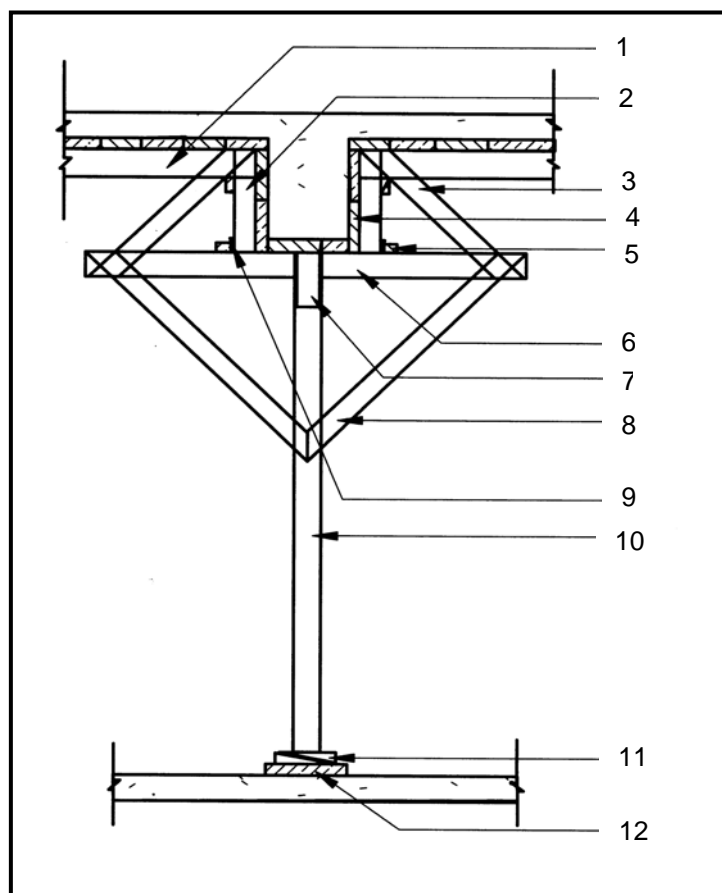

FIGURE 2.1.2
2.1.2 FIGURE 2.1.2 below shows the sketch of a formwork of a beam with an attached floor. Write down the numbers 1 to 12 in your ANSWER BOOK and choose the correct name for each item from the list below the drawing. Write the name next to the corresponding number in your ANSWER BOOK.